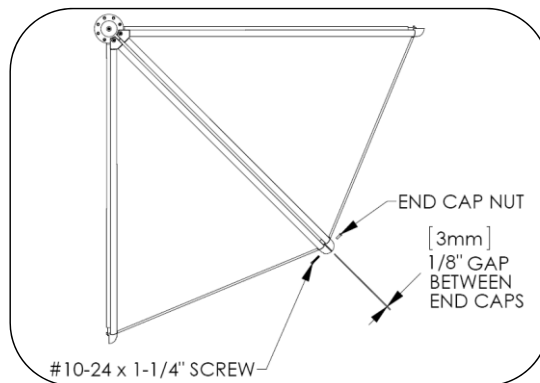

Fig. 6 – Install next panel
7. Install next panel by repeating step 5. Bolt together the panel end caps using the #10-24 screw and end cap nut. Leave 1/8" gap between end caps. See Fig. 6.